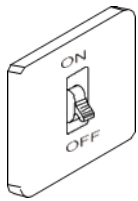

Fig. 1-1A
1. Turn off the power. Take out the luminaire and loosen the screws on the cover with the aid of a screwdriver. Disconnect the quick connect terminal and remove the front cover (Fig 1-1A-B).